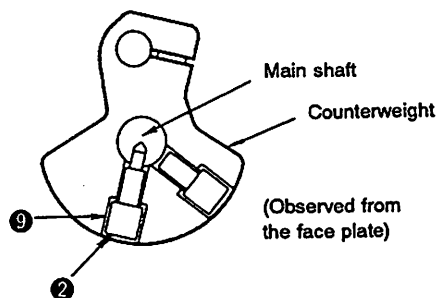
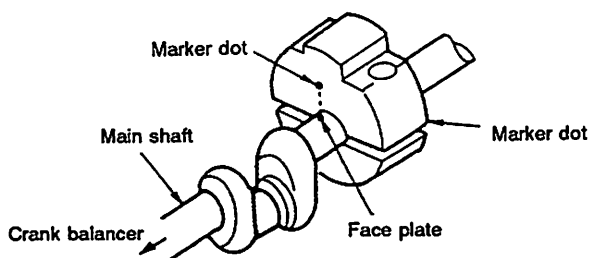

Fig. 5-56-3
Fig. 5-56-4
- 2) When fixing the counterweight, be sure to insert setscrew ② into screw hole ⑨, and fix the counterweight so that the taper of the top end aligns with the taper hole in the main shaft. (Fig. 5-56-3)
- 3) Install the main shaft thrust collar referring to the "STANDARD ADJUSTMENTS (35)." (The oil groove is located on the side of the intermediate bushing.)
- Intermediate presser cam STANDARD ADJUSTMENTS (20)
- Bobbin winder driving wheel STANDARD ADJUSTMENTS (24)
- Thrust collar of the thread trimming cam STANDARD ADJUSTMENTS (15)
- Thread trimming cam STANDARD ADJUSTMENTS (15)
- 5) When fixing the crank rod cover, refer to the "DISASSEMBLY/ASSEMBLY PROCEDURES (45)."
- 6) When fixing the crank balancer, make sure that the marker dot on the main shaft aligns with the marker dot on the crank balancer. (Fig. 5-56-4)
- 7) When installing the handwheel and the generator stator, refer to the "DISASSEMBLY/ASSEMBLY PROCEDURES (43)."